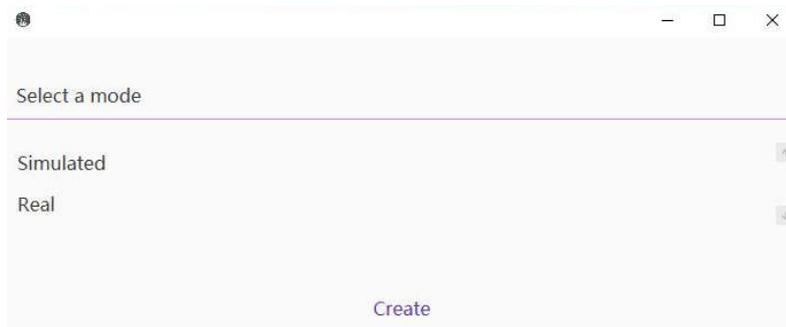

Figure D-1 Mode Selection Interface
- 1) Double-click the icon of MGISP-960 on the desktop. The mode selection interface is displayed, as shown in following figure D-1. Select "Real" and click "Create".